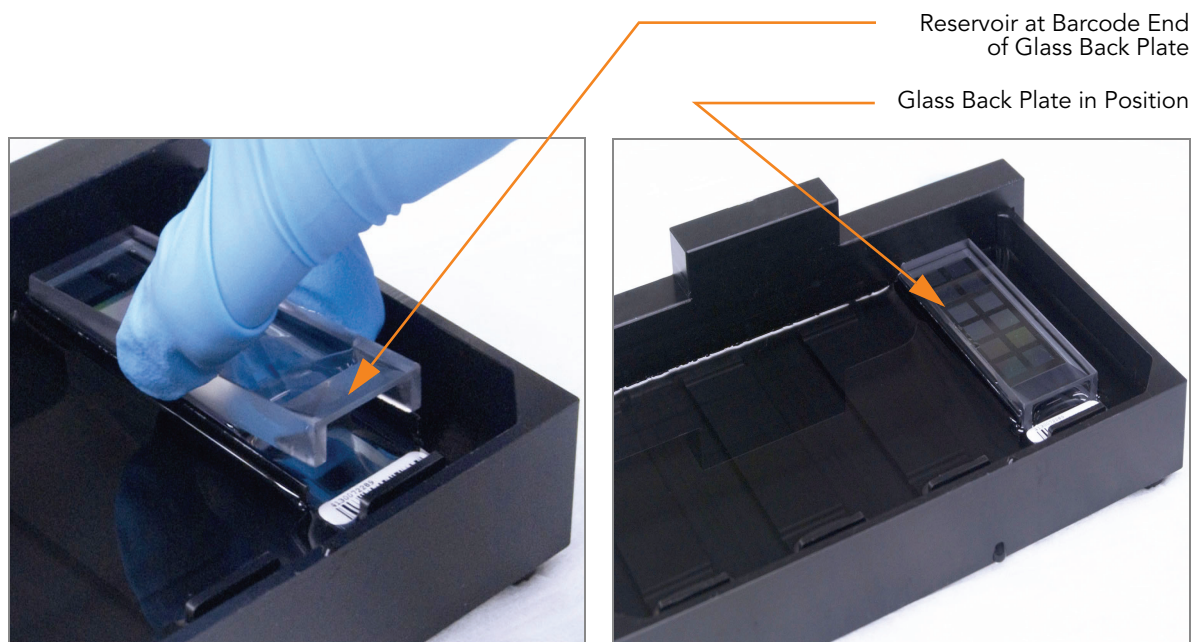

Figure 58 Placing Glass Back Plate onto BeadChip
7. Place a clean glass back plate on top of the clear spacer covering each BeadChip. The plate reservoir should be at the barcode end of the BeadChip, facing inward to create a reservoir against the BeadChip surface (Figure 58).